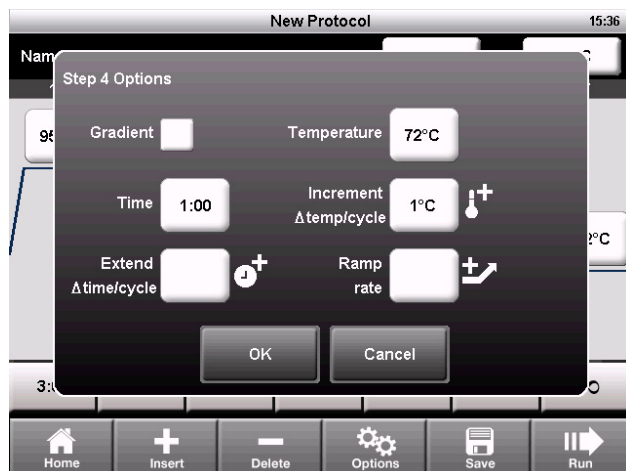

Fig. 12. Step 4 has a temperature increment option.
1. Select a step, then touch **Options** to open the **Step Options** window (Figure 12).